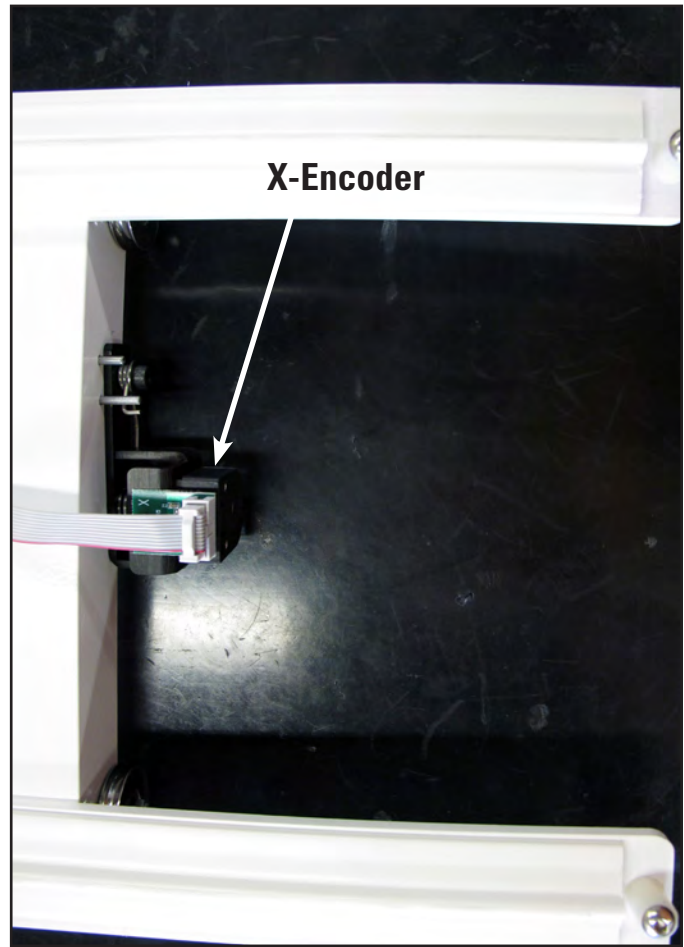
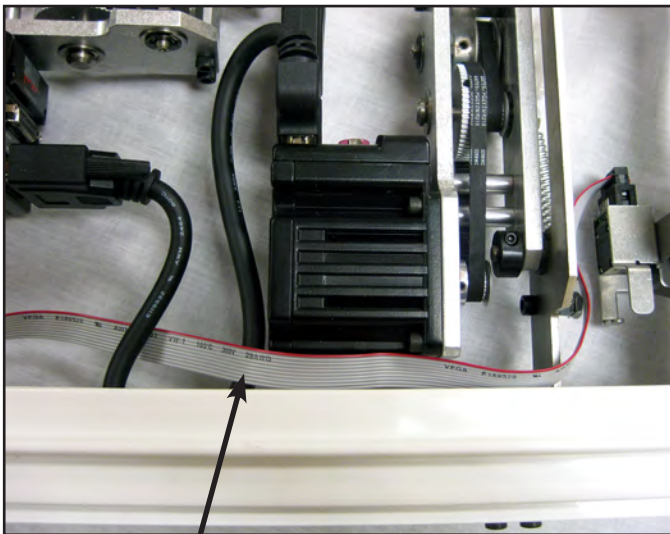

Figure 3.45
Figure 3.44
- a. Plug the 10-pin connector on the end of the flat gray stitch-regulator cable (opposite the 9-pin D-sub connector) into the X-axis stitch regulator encoder. Make sure the red stripe on the gray cable is facing up for the HQ-Sixteen (Figure 3.44) and the left (power cord side) for the HQ18 Avanté (Figure 3.45).
- b. Route the cable around the X-axis motor bracket as shown in Figure 3.44 and through the black motor cable loop to keep the gray cable from interfering with the machine or carriage.